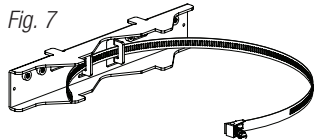

Fig. 7
1. Thread one (1) wormgear quick release strap through the slots on the back of a mounting bracket (Fig. 7, pg. 9).
2. Once the desired height of the top Pole Mount bracket is achieved, tighten the straps down by sliding open end of the strap through the locking mechanism on the strap, then tighten the screw with flat head screwdriver or 5/16" hex socket driver (Fig. 7, pg. 9 and Fig. 10, pg. 9).
4. Thread the second wormgear quick release strap through the slots on the back of the bottom mounting bracket (Fig. 7, pg. 9).